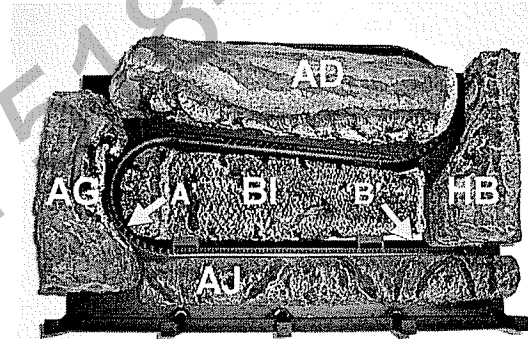

FIGURE 11B
2. Place the 'AD', 'AG', 'HB' & 'AJ' logs into position on the burner cover aligning the holes in the bottom of the logs to the corresponding pins in the burner cover. Figure 11B.